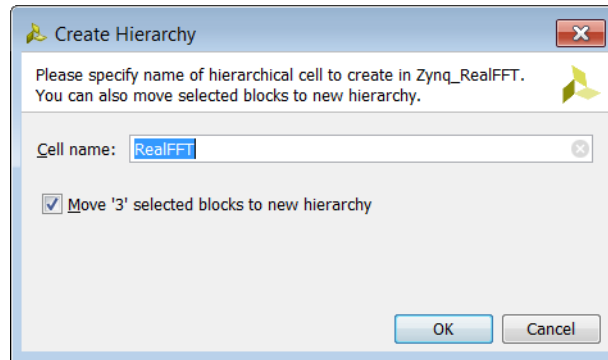

Figure 10-30: Name Hierarchy Block
- d. Ensure that the **Move '3' selected blocks to new hierarchy** option is checked, as shown in Figure 10-30.